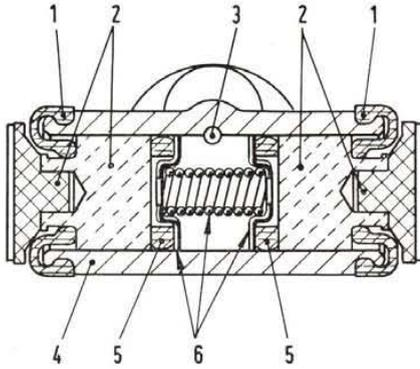

Fig. 289 - Side section view across wheel cylinder.
Tightness in cylinders is obtained by means of a pair of rubber seal rings (5, fig. 289) which will stretch under impending fluid pressure. These seal rings are pressed against pistons by two backing washers to which reaction spring (6) is clenched; pistons operate brake shoes through stems.